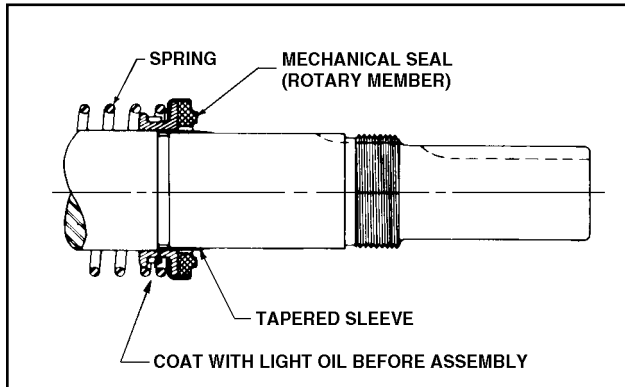

Figure 29
4. Place tapered installation sleeve on shaft. Refer to Figure 29. Sleeve is furnished with GG, AS, AK, and AL replacement mechanical seals. Coat rotor shaft, tapered installation sleeve, and inner diameter of mechanical seal rotary member with a generous amount of refrigeration oil. Petrolatum may be used but grease is not recommended.